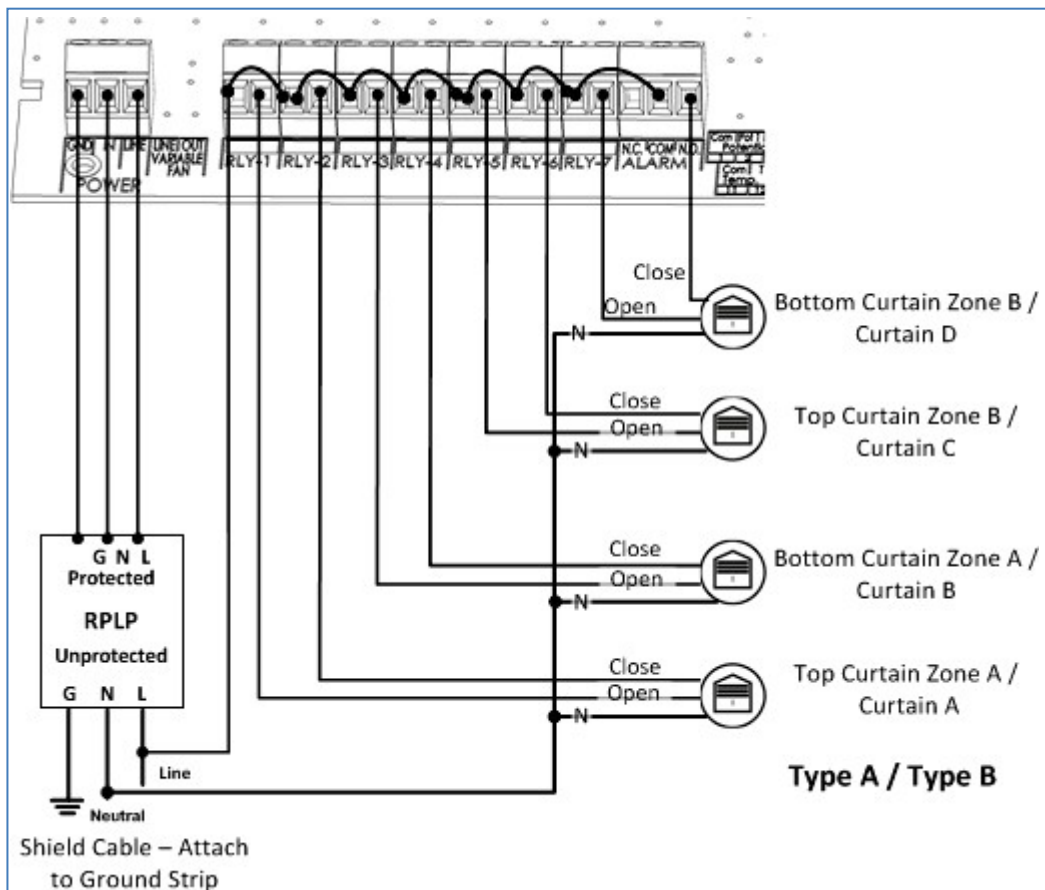

Figure 10: Wiring Diagram of Main Voltage Section and Protection (Type A / Type B Mode)
- Figure 10: Wiring Diagram of Main Voltage Section and Protection (Type A / Type B Mode)